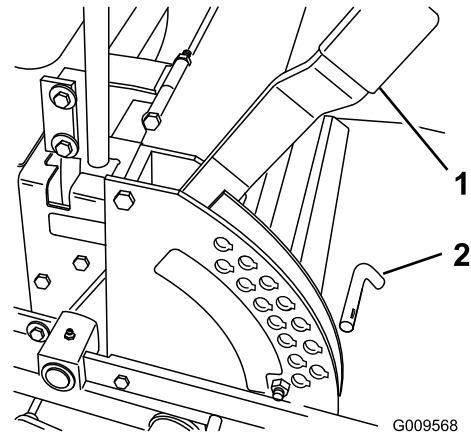

Figure 28
1. Raise the height-of-cut lever to the TRANSPORT position (also the 127 mm (5 inch) cutting-height position) (Figure 28).
2. To adjust, remove the pin from the height-of-cut bracket (Figure 28).
3. Select a hole in the height-of-cut bracket corresponding to the height of cut desired, and insert the pin (Figure 28).